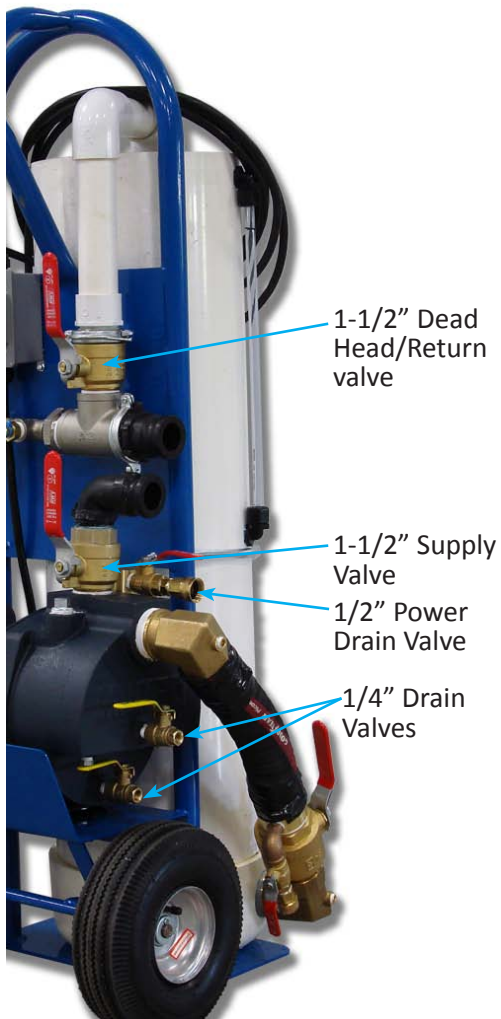

Figure 14: Flush Cart Valves in flushing steps
8. Close 2" tank isolation valve (Figure 10) and open the 1-1/2" dead-head valve (Figure 14).
9. Open 1/2" fill valve (Figure 10) and allow the loop to fill. Watch the fluid level in the tank via the sight tube. When the tank is nearly full, shut off the 1/2" fill valve and 1-1/2" supply valve (Figure 14).
10. Open the 2" tank isolation valve (Figure 10) and energize the pump. Slowly open the 1-1/2" supply valve (Figure 14) approximately 1/4 to 1/2 open. Air and debris will be pushed through the return piping. Debris will be captured in the bag filter and air will be released to the atmosphere.
11. Regulate the fluid level in the tank with the 1/2" fill valve (Figure 10) and the 1-1/2" supply valve (Figure 14) while the pump is running. Do not allow the fluid in the tank to drop too low or air will be pushed back into the loop extending flushing time.
NOTE: When the pump is running any air remaining in the loop will be pressurized. Therefore, if the pump is powered off during the flushing process the compressed air will expand pushing the loop fluid back in the tank. This could cause the tank to overflow. If the pump must be shut off during the process, close the 1-1/2" supply valve (Figure 14) and the 1-1/2" dead-head/return valve (Figure 14) to prevent fluid from returning to the tank.
12. When the fluid level remains relatively stable ensure that the 1-1/2" supply valve (Figure 14) is fully open.
14. While the pump is running, “dead-head” the pump by turning off the dead-head/return valve (Figure 14). Then, quickly reopen the valve allowing the fluid to return to the tank. This process drives the loop pressure up thereby compressing any air remaining in the loop. Quickly opening the valve creates a sudden high velocity surge that helps dislodge air into the fluid stream where it can be returned to the tank.
17. Close the 1-1/2” dead-head valve (Figure 14) while watching the fluid level in the sight tube. The dead-head process drives the static loop pressure to approximately 50 psi. Since fluid is incompressible but air can be compressed, this procedure shows whether air remains in the loop. In general, the fluid should not drop more than about 3/8” to 3/4” on a typical residential system. The slight drop in fluid is due to the expansion of the ground loop piping, and the actual drop will depend on the loop size (i.e. how much total pipe is in the loop) and fluid temperature.
18. Open the 1-1/2” dead-head valve (Figure 14) and allow the fluid to continue to circulate.
23. Close the 1-1/2” dead-head valve (Figure 14).
24. Close the 1-1/2” supply valve (Figure 14) to trap pressure in the system. Turn off the pump.
28. Open the 1-1/2" Supply and Return valves (Figure 14) to relieve the pressure in the hoses.